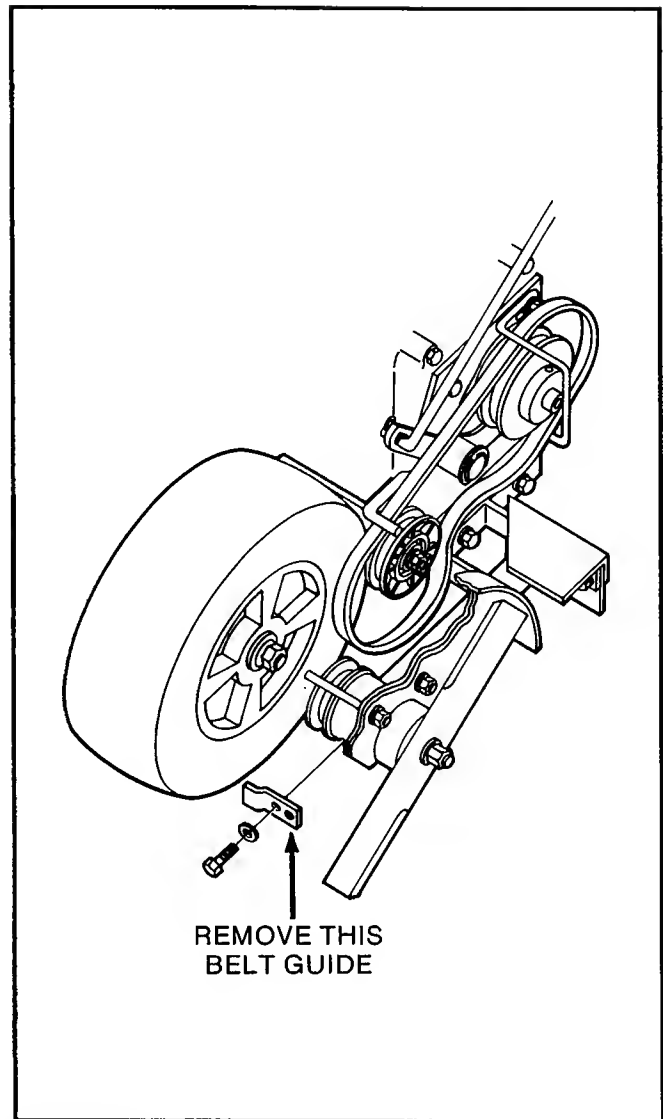

Figure 10
1. Remove flat bar belt guide at front of spindle boom assembly. (Figure 10).